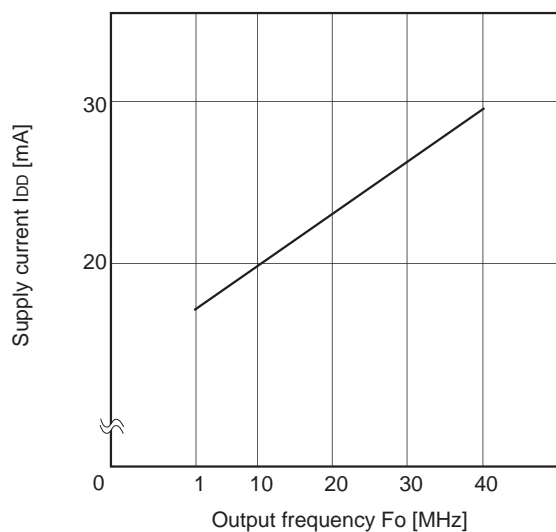

Fig. 6. Output frequency vs. Supply current
- Input data in Fig. 6=all "0" and "1" of rectangular wave; clock frequency=80MHz.